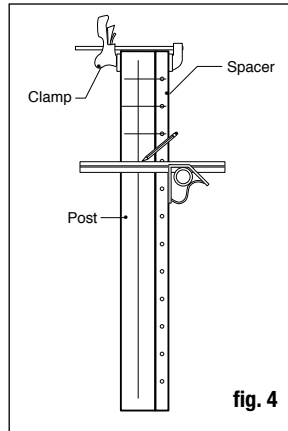

fig. 4
Step 6: Find the center of your post sleeve and clamp the cable spacer in place. This will be your template for predrilling holes for cables. Predrill holes using a 3/16" drill bit (fig. 4). *Note: When running a cable through the post, drilling halfway through one side of the post and then remeasuring and drilling through the other side will result in a much easier, cleaner finish. You can also make a template by using a 2x4 and aligning it to your post sleeve.*